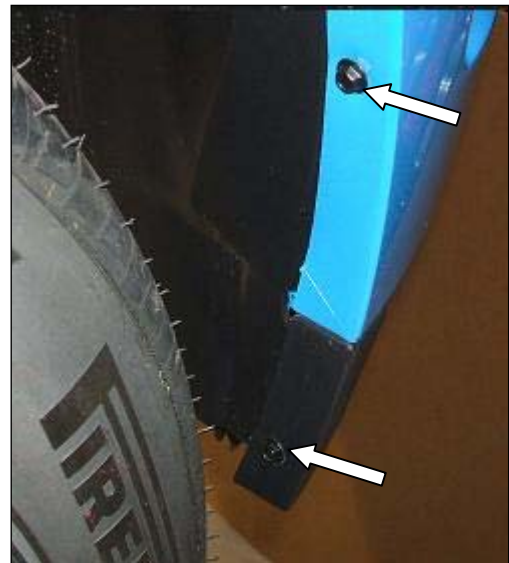

Figure 10
12. Using a 7 mm wrench, remove two (2) screws from each wheel well opening. Refer to Figure 10.
19. Reinstall two (2) screws, removed in Step 12, to each wheel well (4 total). Refer back to Figure 10.